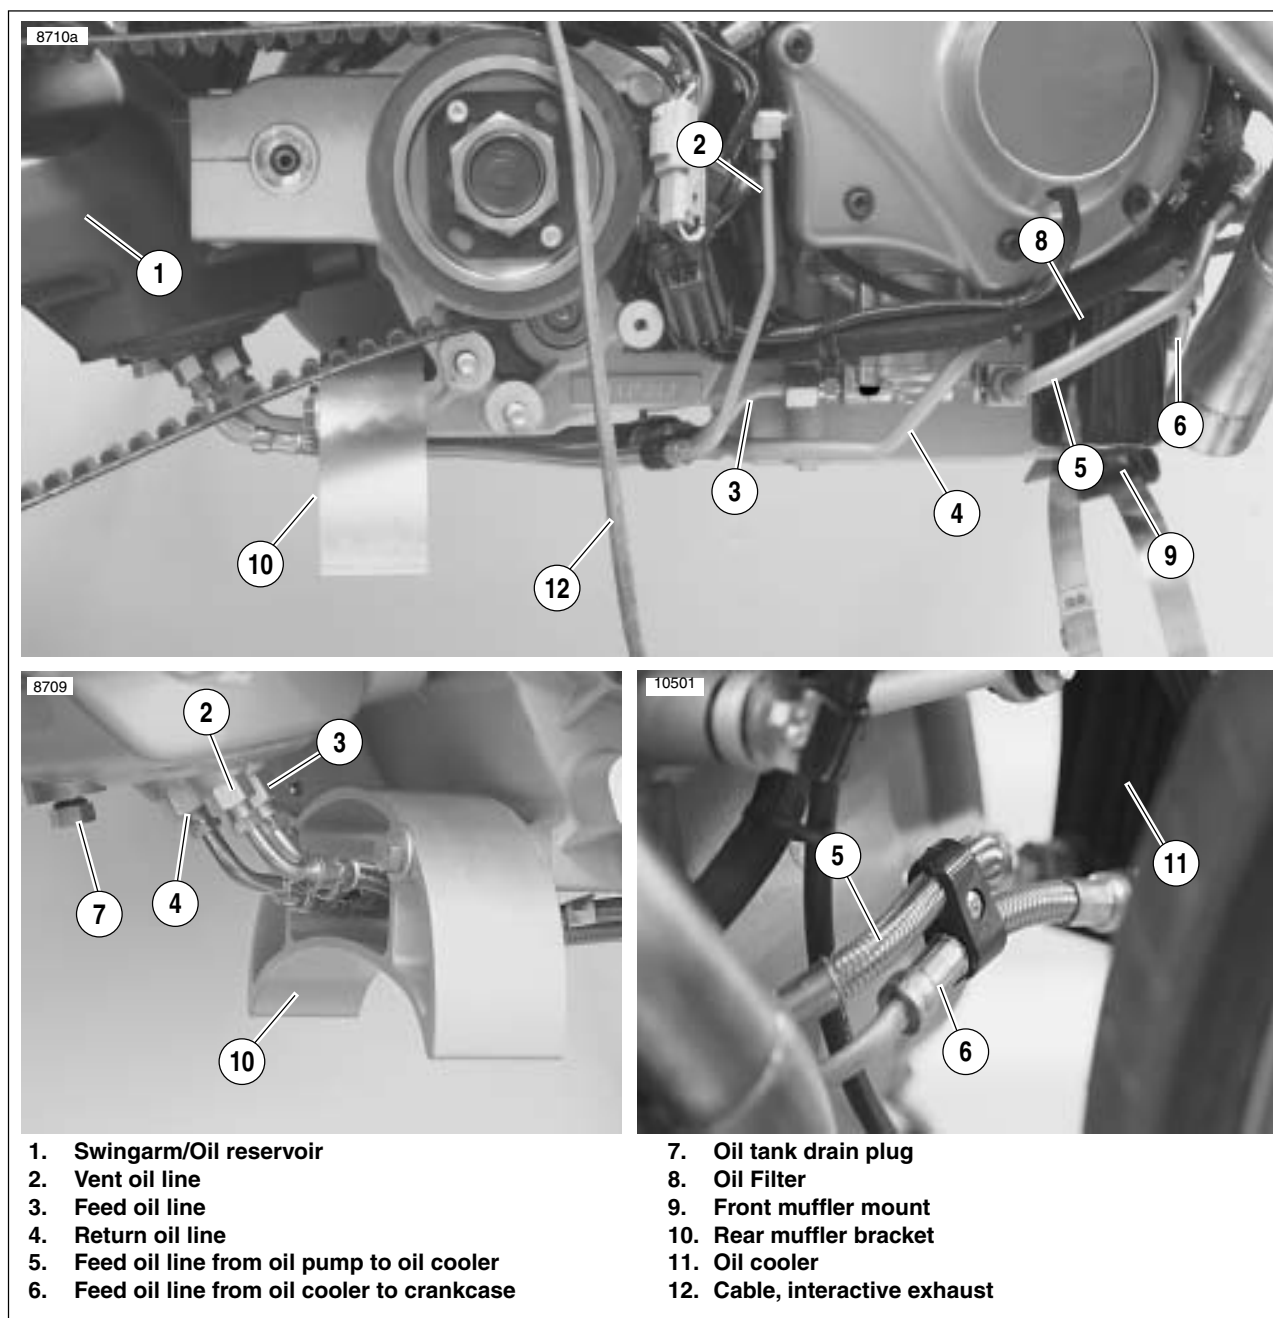

Figure 3-19. Oil Lines and Connections
17. See Figure 3-19. Remove oil filter.